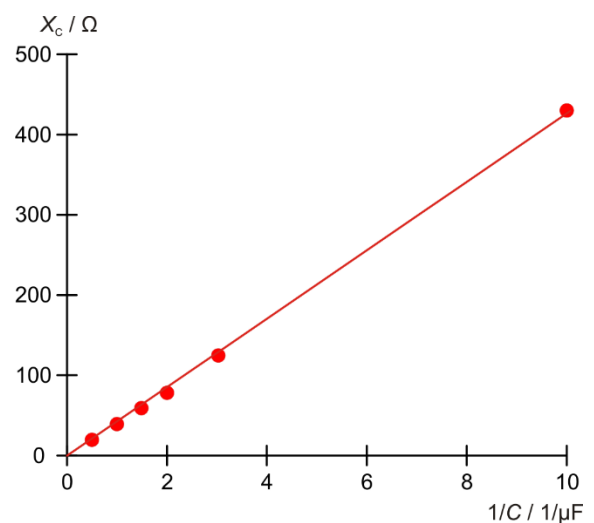
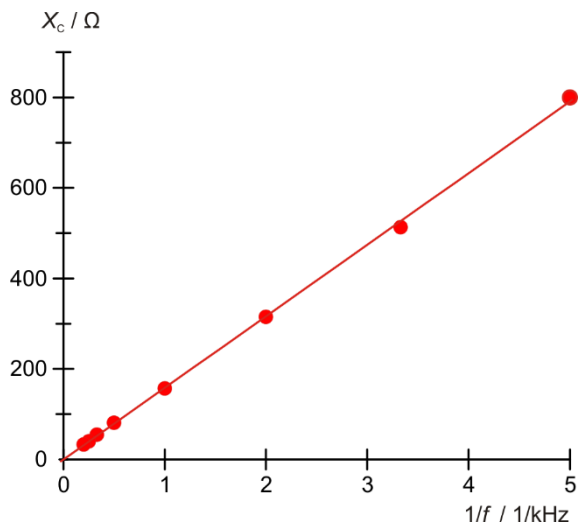

Fig. 4: Capacitive impedance  $X_C$  as a function of the inverse of the capacitance  $C$ .
Fig. 5: Capacitive impedance  $X_c$  as a function of the inverse of the frequency  $f$ .
- Plot the capacitive impedance values  $X_C$  against the inverse of the capacitance (Table 1, Fig. 4) and the frequency (Table 2, Fig. 5).